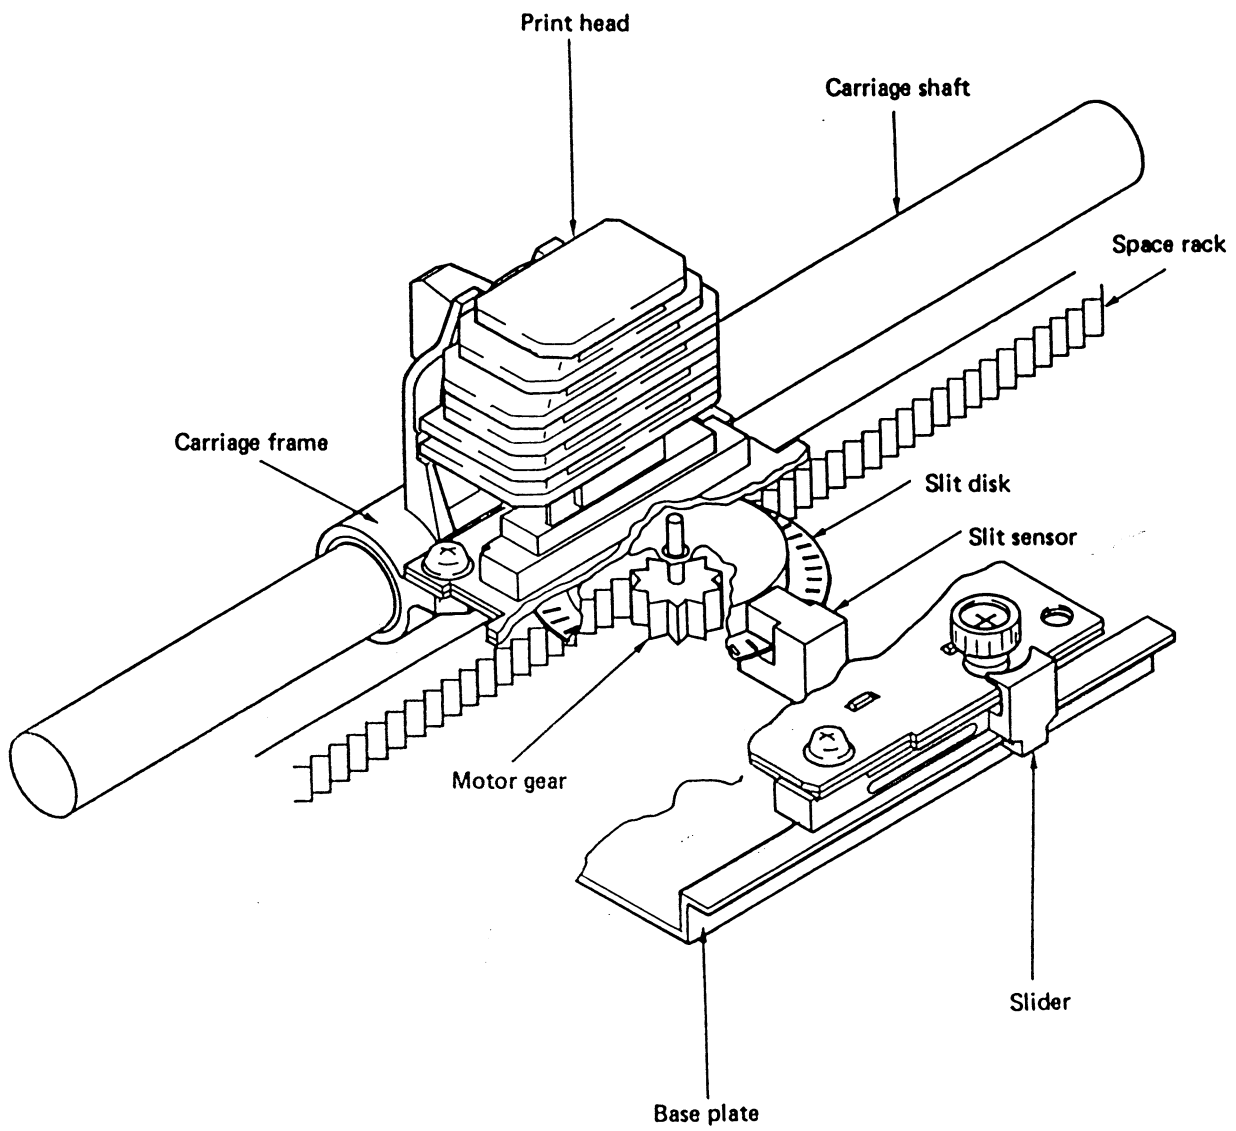

Figure 4
3.2.2 Spacing Mechanism and Operation (see figure 4)